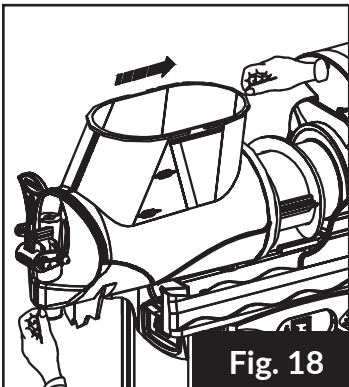

Fig. 18
6. After all bowl components are properly positioned and lubricated, slide the Bowl into position. (Fig. 18)